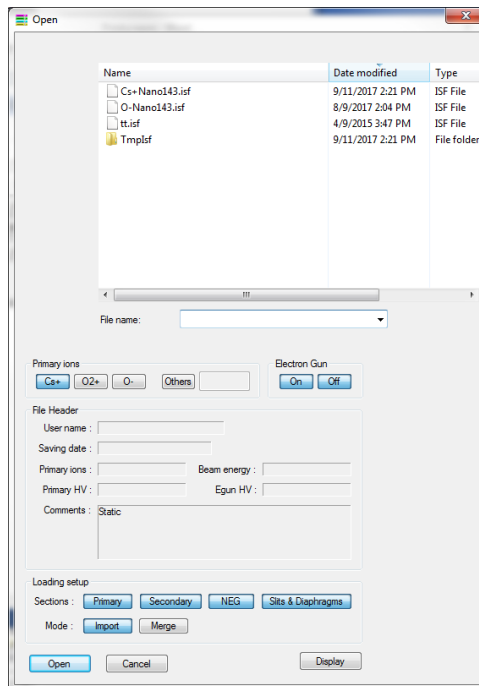

Figure 310: ISF files selection list
- Load an ISF file (see 5.5.1) by selecting the  button which open the following ISF loading dialog box (Figure 310):